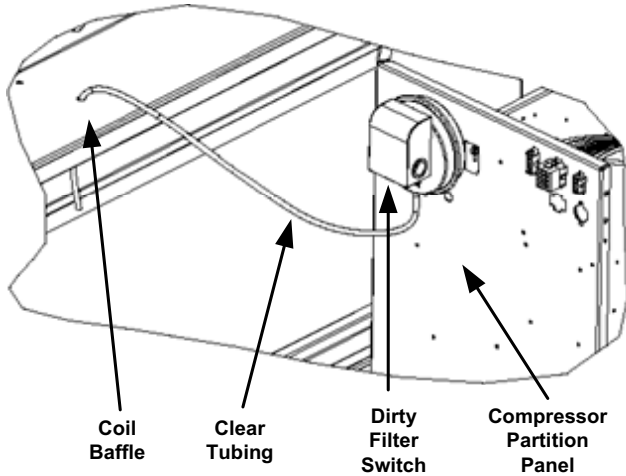

FIGURE 2
2. Remove the upper economizer panel. See location of switch in Figure 2.